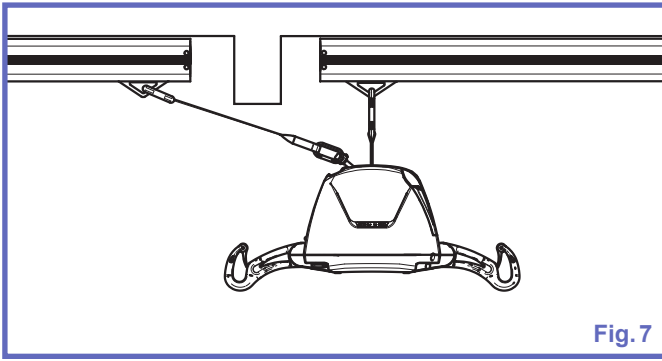

Fig. 7
- 2) Hook the extension strap on the second trolley and then on the pass-through hook (see Fig. 7).